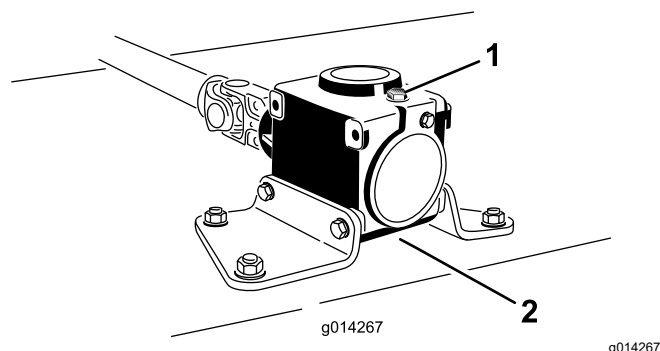

Figure 18
6. Remove the dipstick/fill plug from the top of the gear box (Figure 18) and make sure that the lubricant is between the marks on the dipstick.
6. Remove the dipstick/fill plug from the top of the gear box (Figure 18).